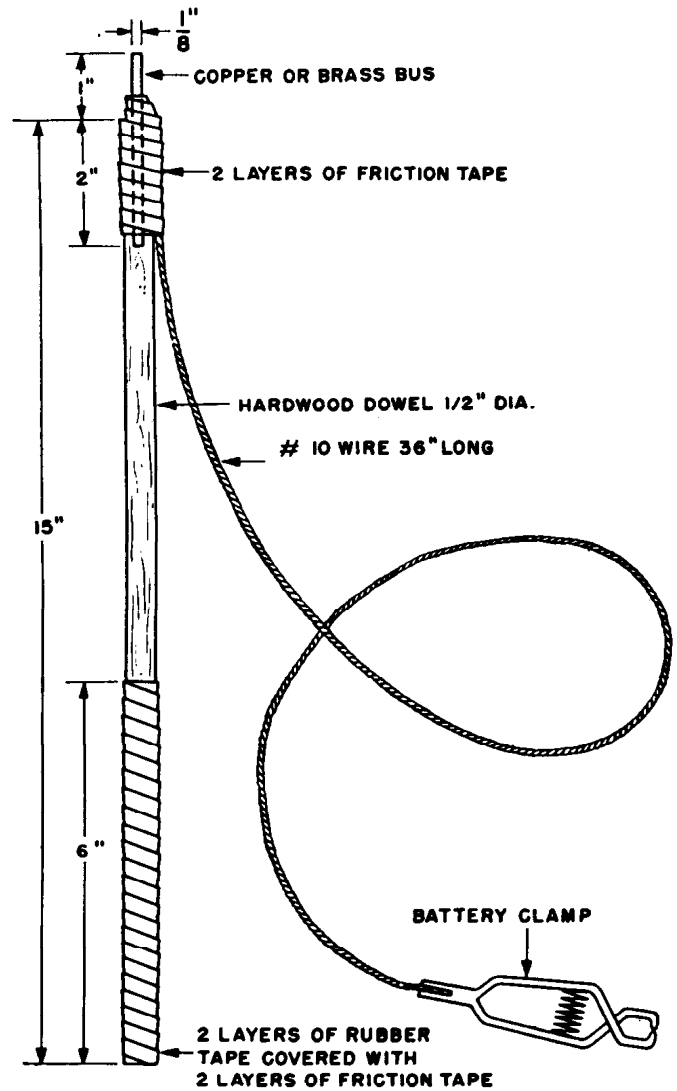

Figure 51. Shorting stick.
64. Special Tool not Supplied (fig. 51)